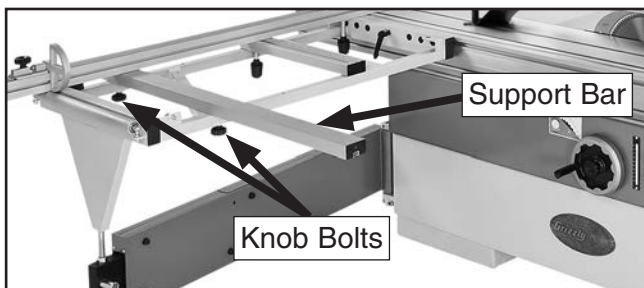

Figure 102. Locations of knob bolts for adjusting support bar position.
6. Loosen support bar knob bolts shown in **Figure 102**, slide support bar into position required for operation, then tighten knob bolts.